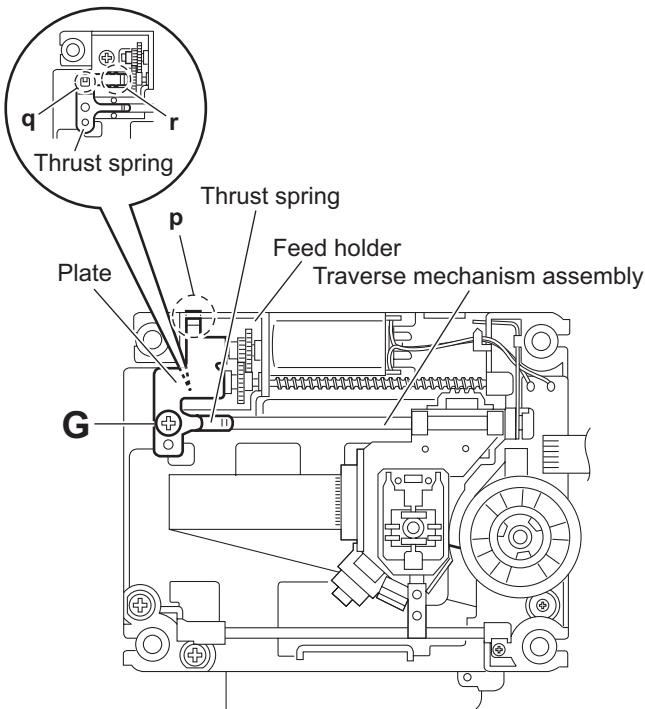

Fig.10
(See Figs.10 to 12)
- (1) From the top side of the traverse mechanism assembly, remove the screw **G** attaching the plate and thrust spring. (See Fig.10.)
- (2) Remove the engagement section **p** attaching the plate to the feed holder and remove the plate. (See Fig.10.)
- (3) Remove the engagement sections (**q**, **r**), remove the thrust spring. (See Fig.10.)